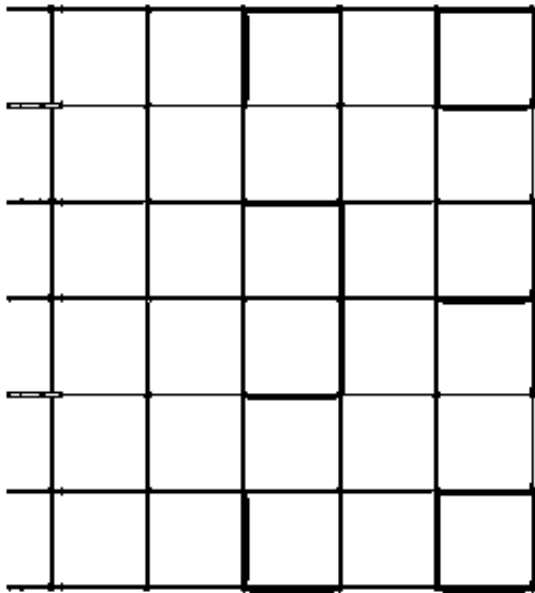

Fig. 5.3
B. Repeat the Vertical Diagonals on every other bay along the outside and inside of the structure (see Fig. 5.3). Dark lines represent Vertical Diagonal placement.